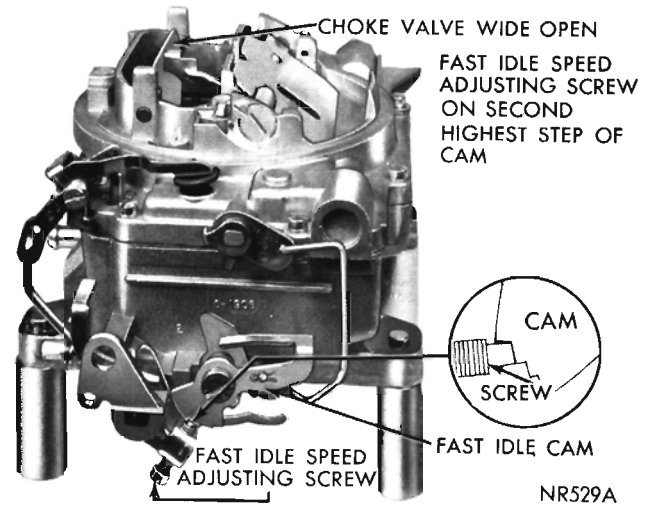

Fig. 20—Fast Idle Speed Adjustment (On Vehicle)
- (1) With engine off and transmission in **PARK** or **NEUTRAL** position open throttle slightly.
- (2) Close choke valve until fast idle screw can be positioned on the second highest speed step of fast idle cam. (Fig. 20).
- (3) Start engine and determine stabilized speed. Turn fast idle speed screw **in** or **out** to secure specified speed. (Refer to Specifications).
- (4) Stopping engine between adjustments is not necessary. However, reposition fast idle speed screw on came after each speed adjustment to provide correct throttle closing torque.